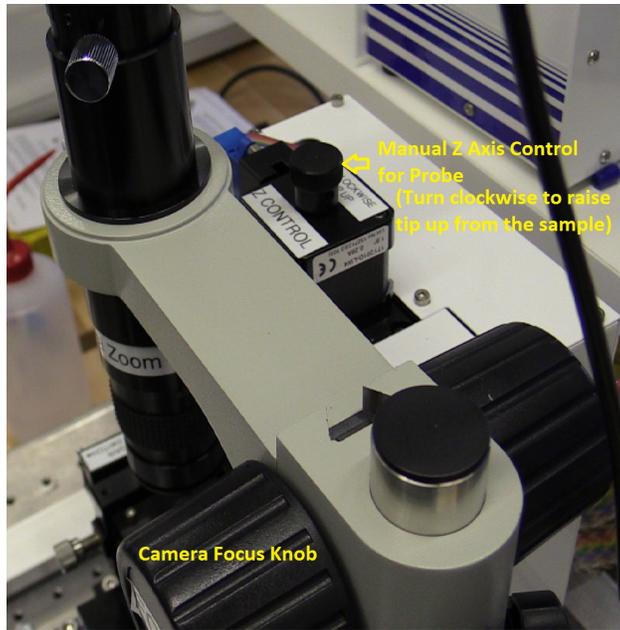

Figure 23: Z-motor and camera focus knobs
1. Move the probe module down by turning the Z-motor knob (Fig. 23) while **physically** monitoring the tip-sample distance, until the tip is few mm away from the sample surface.